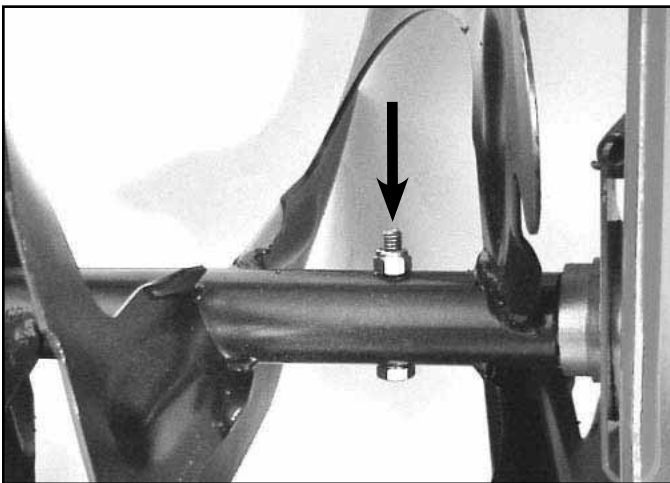

Fig 083
13. Remove the capscrew connecting each auger to the auger shaft and slide the auger off the shaft (Fig. 083).